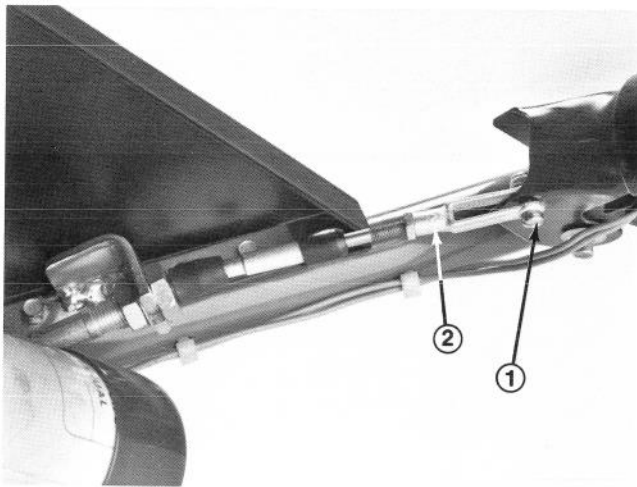

Figure 44
- 1. Remove screw and nut securing cable clevis to brake lever (Fig. 44).